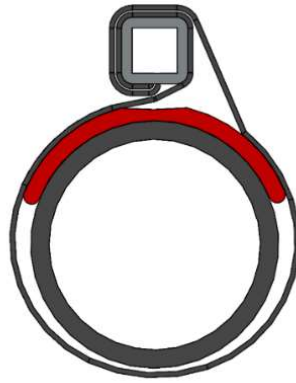

Figure 1 – Wrench Adapter Assembly Configuration for Re-Entrant Tip Removal
- 2.1.1 Per Figure 1, Insert Tool Support for WA-001 (156-99-005) [red semi circle] between the Rubber Collar and Strap of Wrench Adapter (WA-001). Rotate Square Tube of Wrench Adapter counterclockwise to remove slack in Strap and ensure it remains in the channel of Tool Support for WA-001.